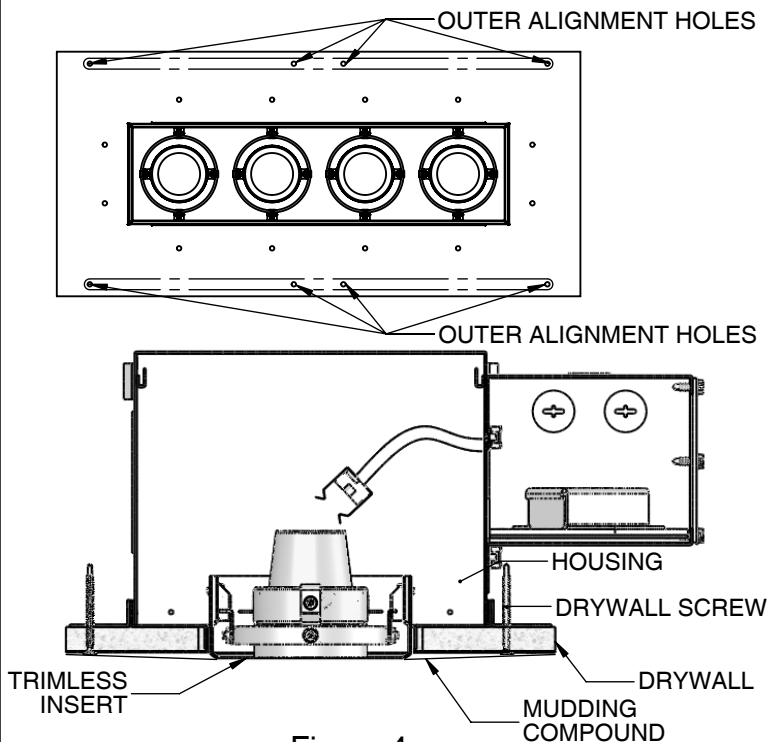

Figure 4
8. A clean, square hole in the CEILING MATERIAL must be cut. Install the ceiling material below housing as seen in Fig 4.
9. Replace the TRIMLESS INSERT into the HOUSING by pushing until flush with the CEILING MATERIAL as seen in Fig 4. Using the OUTER ALIGNMENT HOLES on the TRIMLESS INSERT, screw the TRIMLESS INSERT into the HOUSING using DRYWALL SCREWS into the Outer Holes on the TRIMLESS INSERT.
10. Smooth out MUDDING COMPOUND / TAPE from around aperture to surrounding areas of DRYWALL as seen in Fig 4.